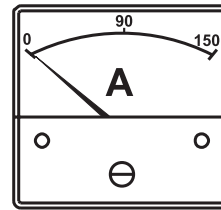

Figure 54. Ammeter (No Load)
8. The **ammeter** (Figure 54) will indicate **zero amps** with no load applied. When a load is applied, the ammeter will indicate the amount of current that the load is drawing from the generator.